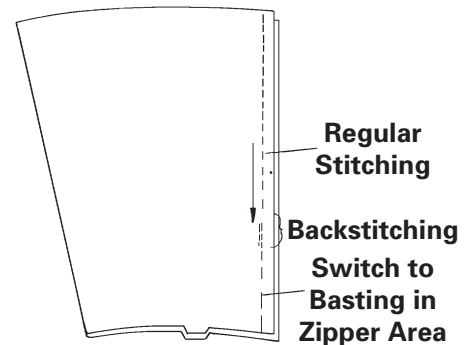

Fig. 9-2
2. Using a standard presser foot and regular stitch length, sew the seam from the bottom of the garment up to the chalk mark made in Step 1. Backstitch. Without removing the fabric from the machine, change the stitch length to basting. Continue sewing the seam to the top edge of the garment. (Fig. 9-2)